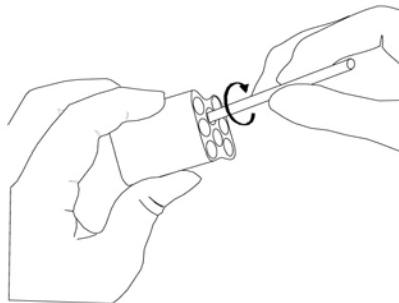

Figure F.1.3b: Re-lubricating 1250 - 250 μl Pipettes
- 1250 μl and 250 μl Pipettes: Use the wooden applicator and O-ring lubricant supplied in the Preventive Maintenance/Autoclave Kit to apply a thin layer of lubricant approximately 0.5 inches (*approx. 1.3 cm*) down into each piston hole that requires it. Spread the lubricant evenly along the inner wall of each cylinder by using a circular motion with the wooden applicator (see *Figure F.1.3b*).